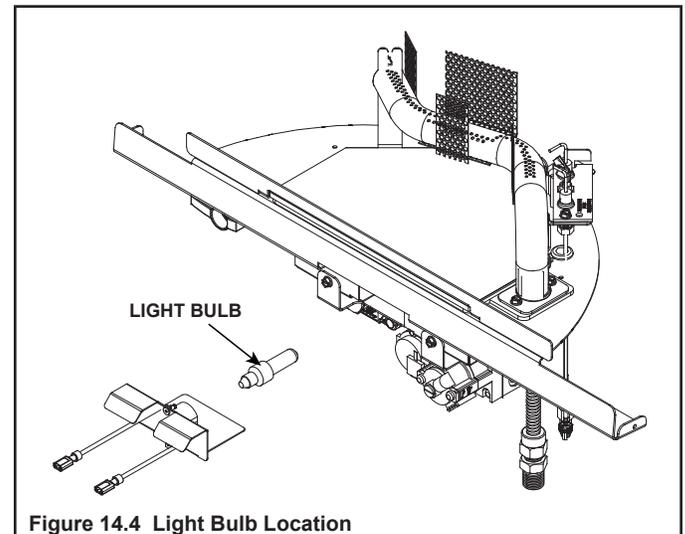

Figure 14.4 Light Bulb Location
- Remove old light bulb and replace it with a new bulb. See Figure 14.4. Recommended replacement: Sylvania Candelabra 75 watts.